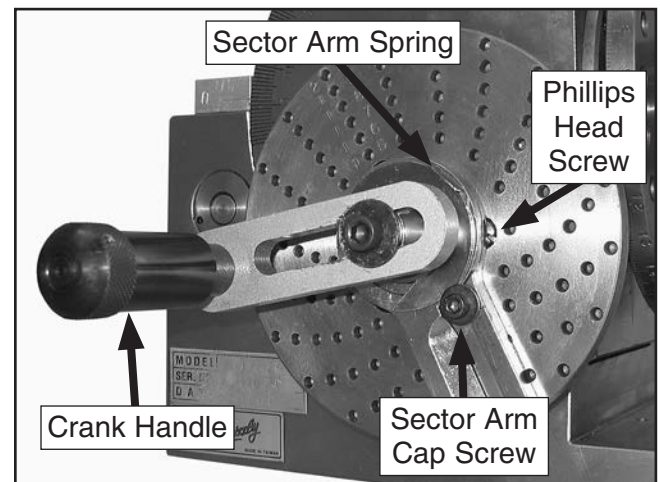

Figure 13. Dividing plate components.
1. Remove the cap screw and flat washer that secure the hand crank, then remove the crank (see Figure 13).